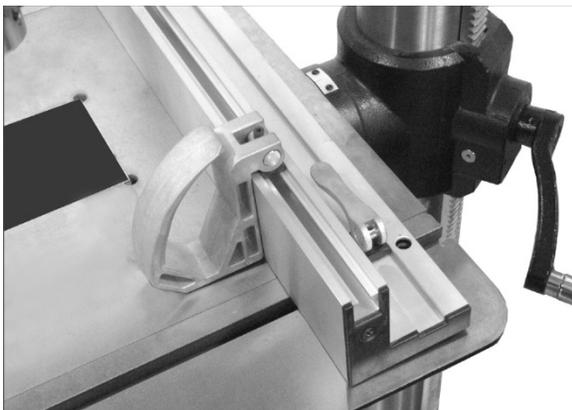

Figure 6-12
5. Slide fence into t-slots from front edge of table. To secure fence, push down cam handles. See Figure 6-12.